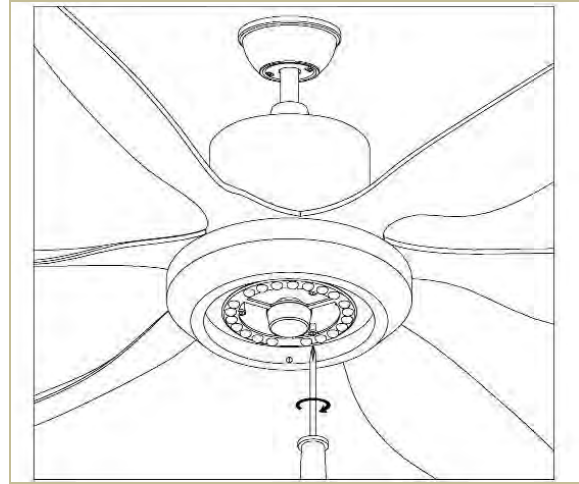

Fig 15
- (4) Secure the LED light panel back to the light kit. (Fig 15)